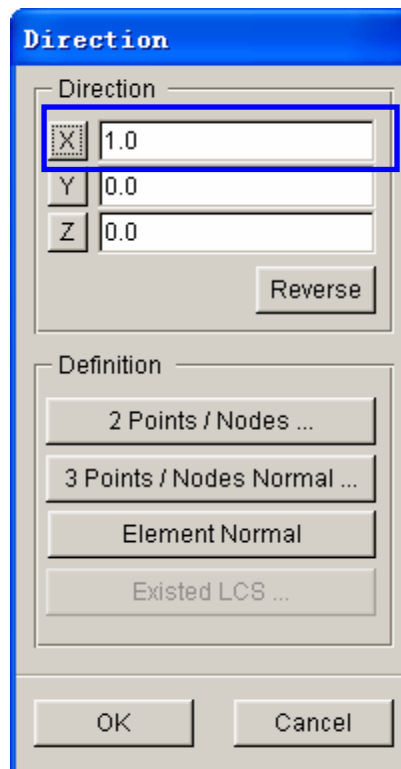

Figure 3.25 Direction dialog box
22. Next, let's modify the default working direction of **dock1** to **+X**. Click  button to display the DIRECTION dialog box. Click on **X** button to set the vector of working direction as **+1**, as illustrated in Figure 3.25.